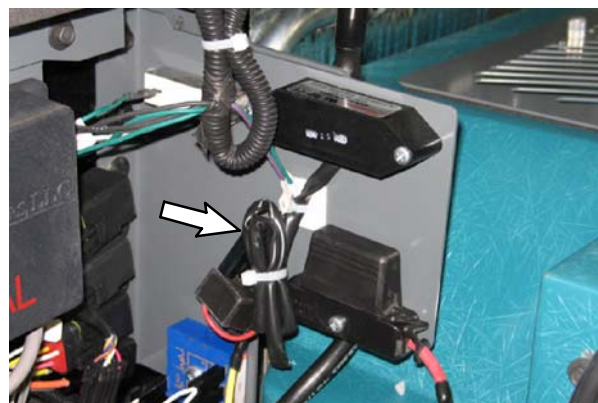

FIG. 15
26. Neatly bundle excess backup harness (6) connected to the flasher (5) and secure the bundle with a cable tie (16). Refer to Fig. 15.